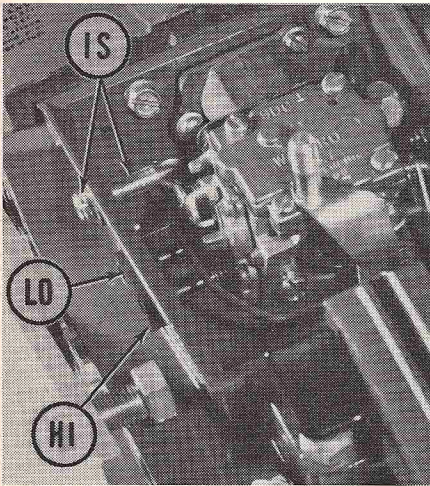

Fig. HL100—View with air filter cover and filter element removed showing carburetor and adjustment points.
**CARBURETOR.** A Walbro model SDC-1 carburetor is used on all models. The diaphragm type carburetor also incorporates a diaphragm type fuel pump and a diaphragm type accelerator pump. Fig. HL100 shows carburetor adjustment points; refer to Figs. HL101 and HL102 for exploded views of carburetor.
For initial adjustment of carburetor, refer to Fig. HL100 and proceed as follows: Back out the idle speed screw (IS) until it clears throttle shaft arm and gently close both fuel mixture needles (LO and HI). Open idle fuel needle (LO) about 3/4 to 1 turn and open main fuel needle (HI) 1 to 1 1/4 turns. Turn idle speed screw (IS) in slowly until it contacts throttle shaft arm, then continue turning screw in 1 1/2 turns. Note: Flip throttle trigger when turning idle speed screw in; a sharp click will be heard when screw is in far enough to contact throttle shaft arm.